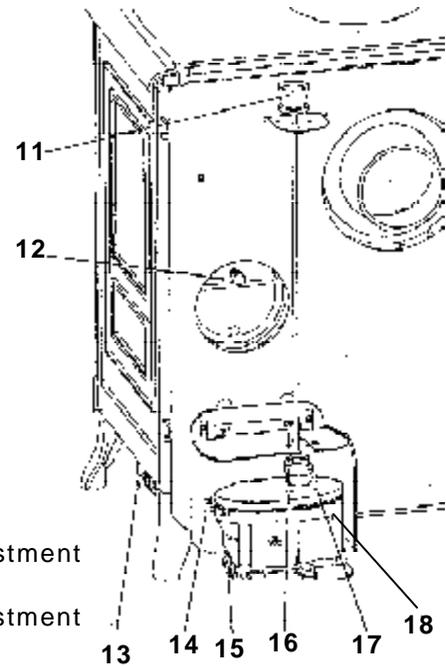

FIGURE 9
These segments work together to create the chimney draft. To alter one of them will affect the other two and change the amount of draft in the chimney and ultimately the stove's performance. To ensure that adequate chimney draft is maintained, the chimney should be kept clean and without cracks. As soon as the oil stove has been installed, the chimney draft should be checked with a draftmeter. In order to insert the draftmeter probe into the chimney connector, drill a ¼" hole at the rear of the connector joint approximately 6" from the rear of the flue collar. This may then be sealed with a screw once all testing has been completed. Flue draft is measured when the oil stove is hot (after a minimum use of 30 minutes) to establish a true reading of the draft. For the recommended operating draft level, see 'General Information' on page 4. Draft adjustment can be made through use of the draft regulator located at the back of the oil stove (**item 12, figure 9**). In the event that the chimney draft is excessive or irregular, a draft stabiliser should to be fitted to the chimney.
In the center of the burner is the catalyser (C) which aids in vaporizing the fuel. When the stove is operation, the catalyser glows red. The stove should not be used without both the catalyser, catalyser top (D) and ring (E). To the right of the unit, just below the side panel is a small push rod called a de-scaling lever, (**item 13, figure 9**), that should be pushed and pulled in and out as well as turning slightly at the same time to keep the inlet pipe clear of carbon buildup. This should be done on a weekly basis.
ADJUSTMENT AT MINIMUM SPEED: Turn the control knob 'A' to the # 1 dial setting and allow the burner to run for a few moments. The flame must completely cover the bottom of the burner pot and the catalyser should glow red. If the flame is too small, the oil stove will quickly soot up. Turn the set screw 'B' **FIGURE 12 (item 16, Figure 9)**, located on the top of the carburetor, clockwise with a screwdriver to increase the flow of oil.
ADJUSTMENT AT MAXIMUM SPEED: Gradually turn the control knob 'A' to dial setting # 6 and allow the burner to run for a few moments. The flame should be in a cone form with the top level with the upper part of the door. If the flame is too low, the oil flow rate should be increased by turning the set screw 'C' **FIGURE 12, (item 17, Figure 9)** on the carburetor counter-clockwise. If the flame is too high, turn the screw clockwise. The flames should have only occasional contact with the burner ring. The bottom 2" (50 mm) of the flames should be blue in colour with the rest yellow.